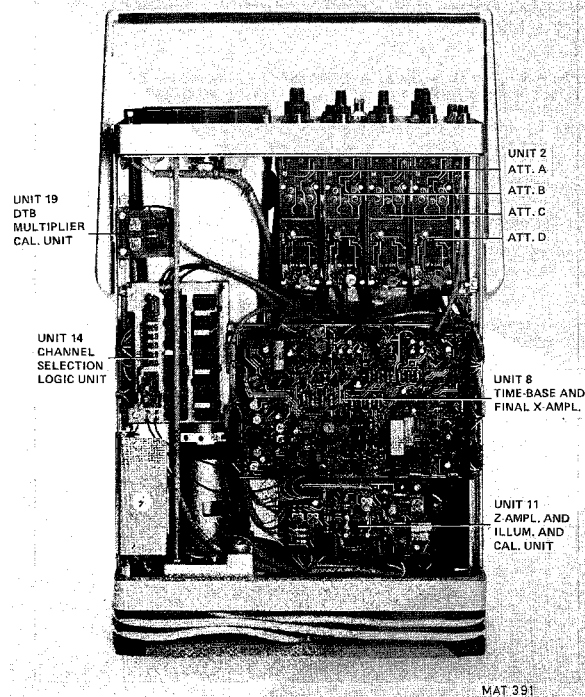

Fig. 3.5. Unit location, bottom view
#### 3.4.4. Removing the attenuator unit (fig. 3.5)
**3.4.5. Removing the time-base and X amplifier circuit board (fig. 3.5)**
**3.4.6. Removing the Z amplifier circuit board (fig. 3.5)**
#### 3.4.12. Removing the 1600 V converter circuit board (fig. 3.5)